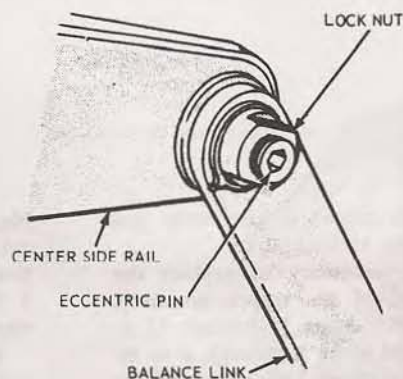
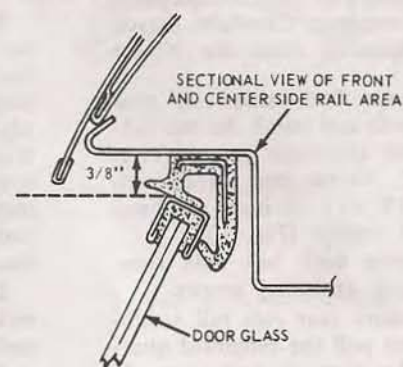

FIG. 4—Balance Link Eccentric Adjustment
FIG. 5—Side Rail to Door Glass Clearance
The balance link upper attachment incorporates an eccentric to obtain the required seal between the side rail weatherstrip and door glass (Fig. 4).
1. With the top in the raised position, loosen the eccentric lock nut (Fig. 4) and rotate the eccentric pin to obtain a $\frac{3}{16}$ -inch clearance between the door glass frame and the front and center side rails (Fig. 5). This dimension increases $\frac{9}{16}$ -inch along the quarter window radius.